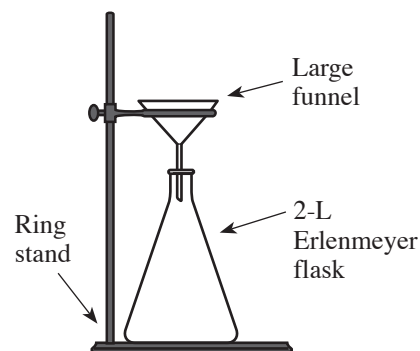

Figure 1.
1. Prepare Solution A by adding 0.1 g of luminol and 50 mL of 5% sodium hydroxide solution to approximately 800 mL of distilled or deionized (DI) water. Stir to dissolve the luminol. Once dissolved, dilute this solution to a final volume of 1000 mL with DI water.
3. Set up the demonstration equipment as shown in Figure 1.